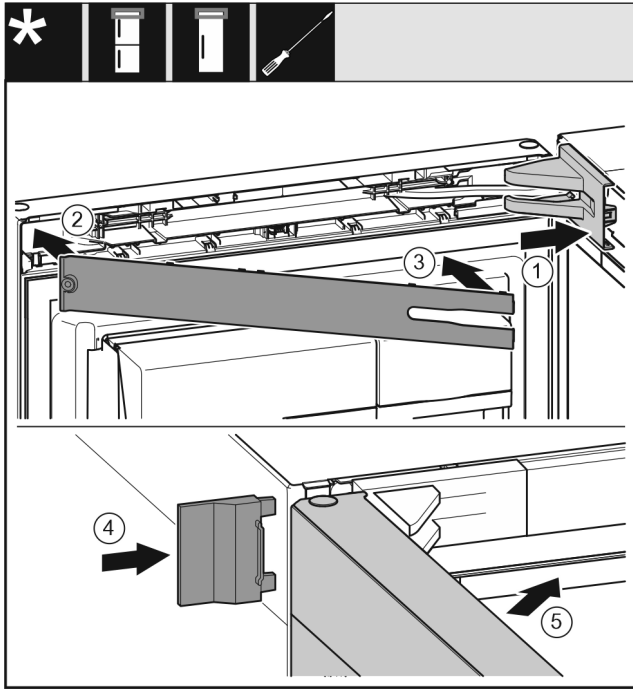

Fig. 31
- ▶ Put the swap bearing block cover Fig. 31 (1) on and engage, push apart carefully if required.
- ▶ Fit the trim Fig. 31 (2).
- ▶ Screen Fig. 31 (3)
- ▶ Push the outer cover Fig. 31 (4) on.
- ▶ Close the upper door Fig. 31 (5).